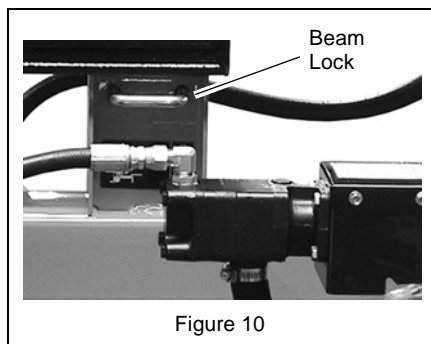

Figure 10
1. Pull beam lock out until the pin clears the mount (Figure 10).
2. Turn beam lock until pin lines up with hole in lock bracket and release (Figure 10).